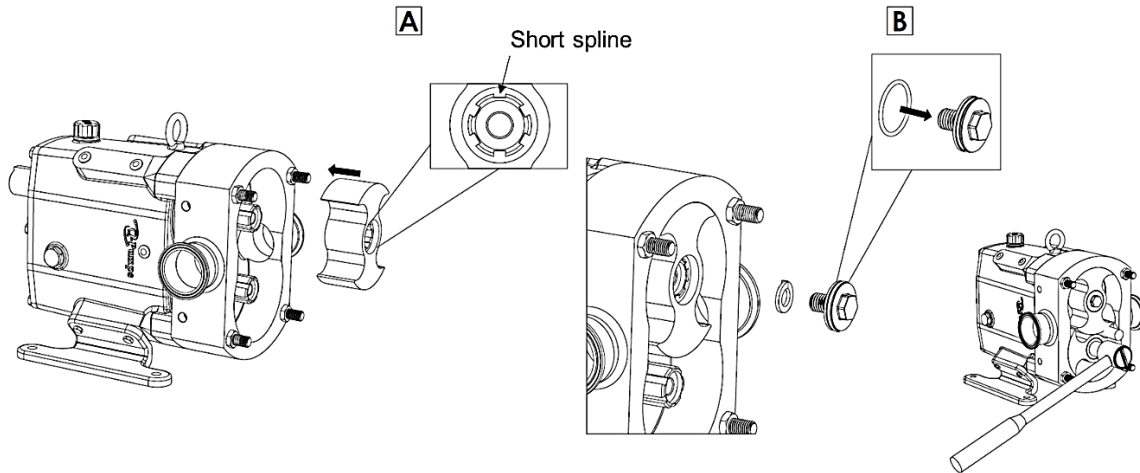

Figure 62: Rotor Installation
2) Align the short spline in the rotor with the short spline on the shaft and slide the rotor on the shaft (Figure 62, A). Install a new rotor bolt o-ring in the o-ring groove on the rotor bolt. Slide the lock washer on the rotor bolt and thread the rotor bolt into the shaft, tightening it down using the appropriate wrench and a non-metallic wedge to hold the rotor in place (Figure 62, B). See Table 4 for required torque values. Repeat with the second rotor.